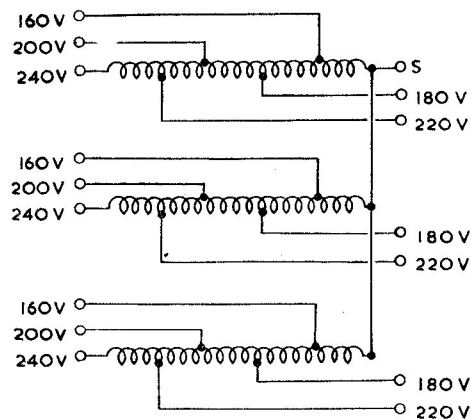

Fig. 1. Diagram of internal connections
1. The P2402/1 transformer is identical with that described and illustrated in the main chapter, except for different transformer output voltages, as shown in fig. 1.